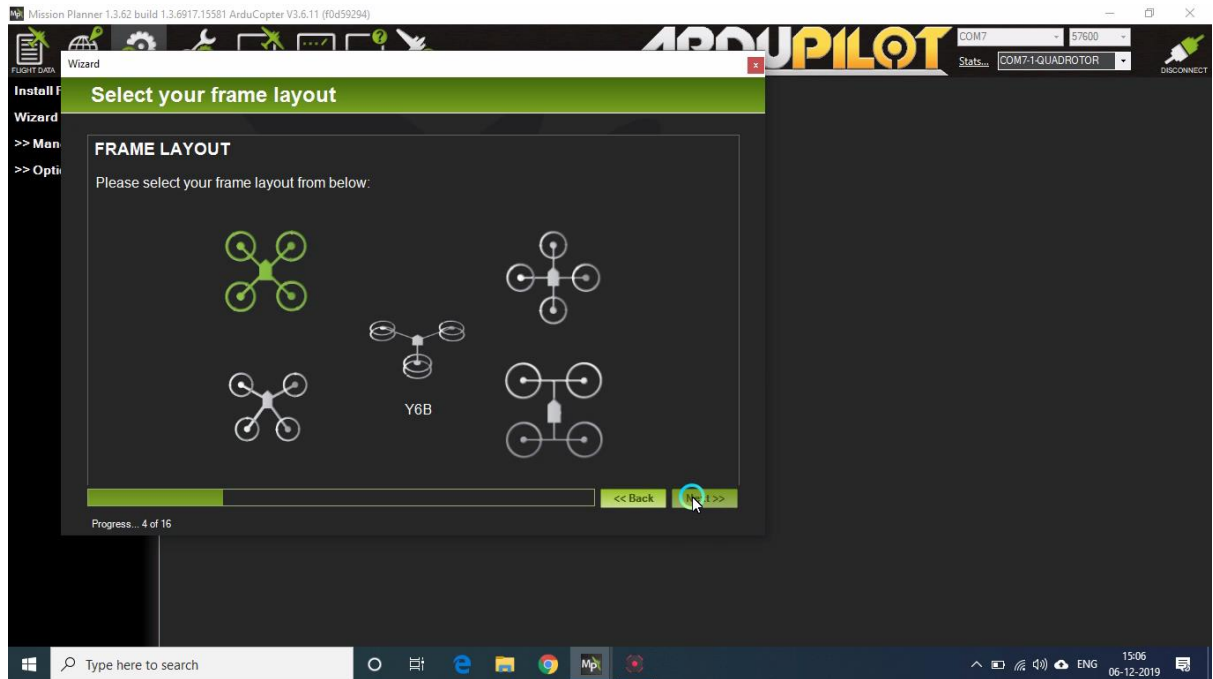

Fig.4.5
- Select the frame layout (Quad) and click next. Refer Fig.4.5.